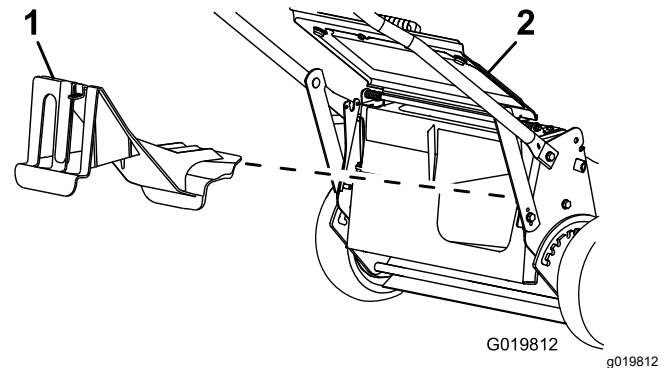

Figure 21
- If the rear-discharge plug is not installed, grip it by the handle, raise the rear deflector, and insert it into the rear-discharge chute until the latch locks into place; refer to Figure 21.
2. Remove the rear-discharge plug by pulling down on the latch with your thumb and pulling the plug out from the machine (Figure 21).